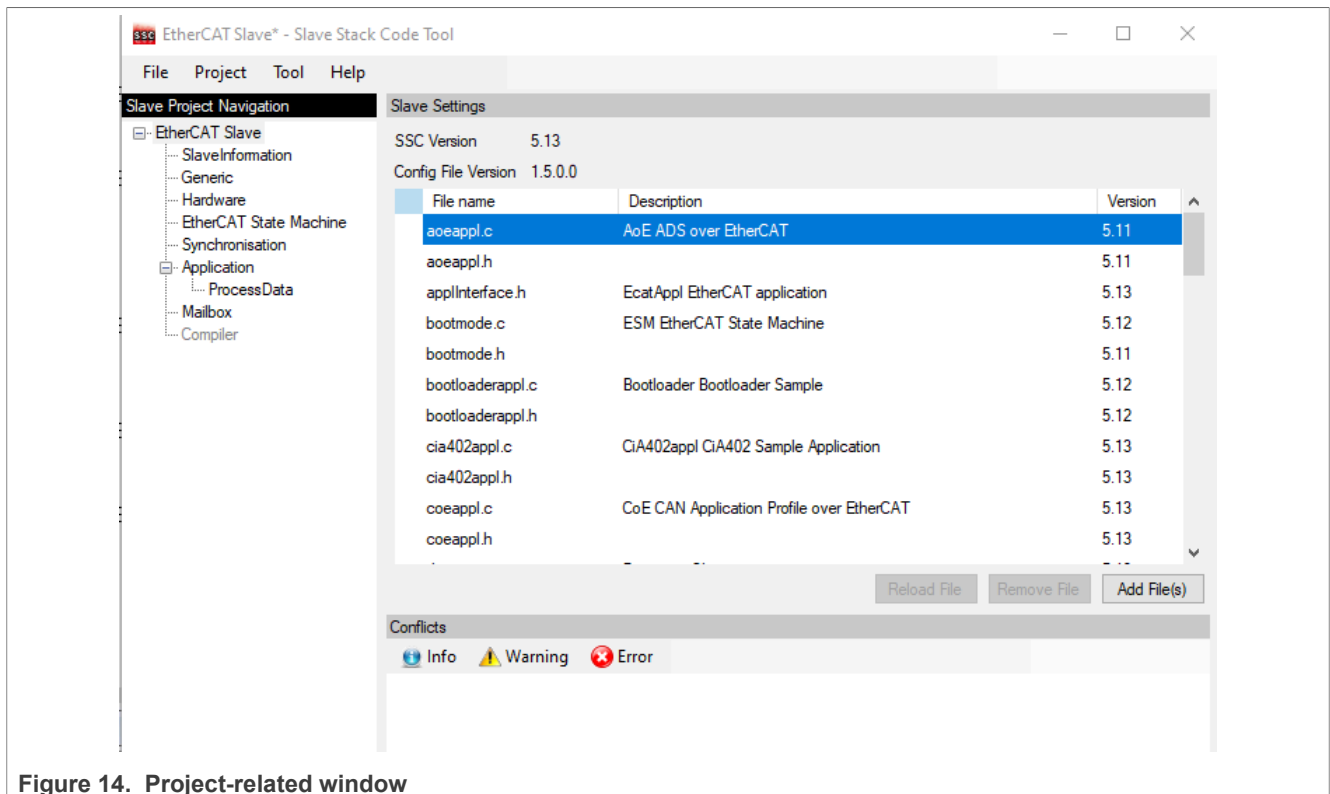

Figure 14. Project-related window
6. Clicking **OK** opens the project-related window as shown in Figure 14.